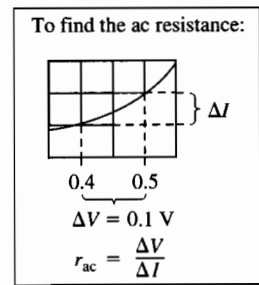

Figure 31-3
1. Compute the diode's forward resistance at three points on the forward-biased curve. Apply Ohm's law to the curve in Plot 31-1 at 0.5 V, 0.6 V, and 0.7 V by dividing a small change in voltage by a small change in current, as illustrated in Figure 31-3. This result is called the ac resistance (r_{ac}) of the diode.